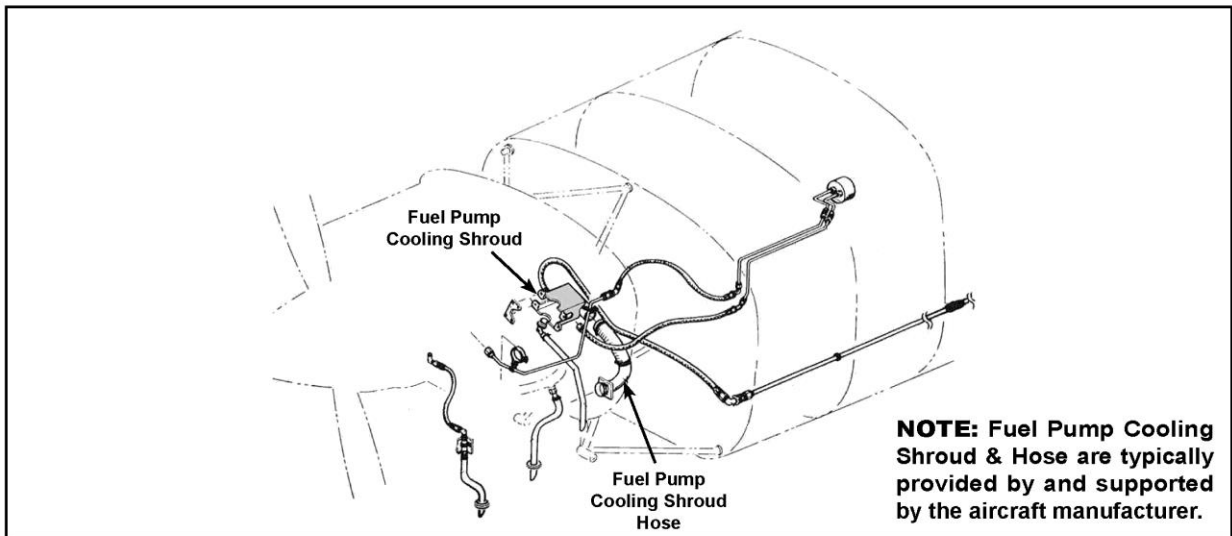
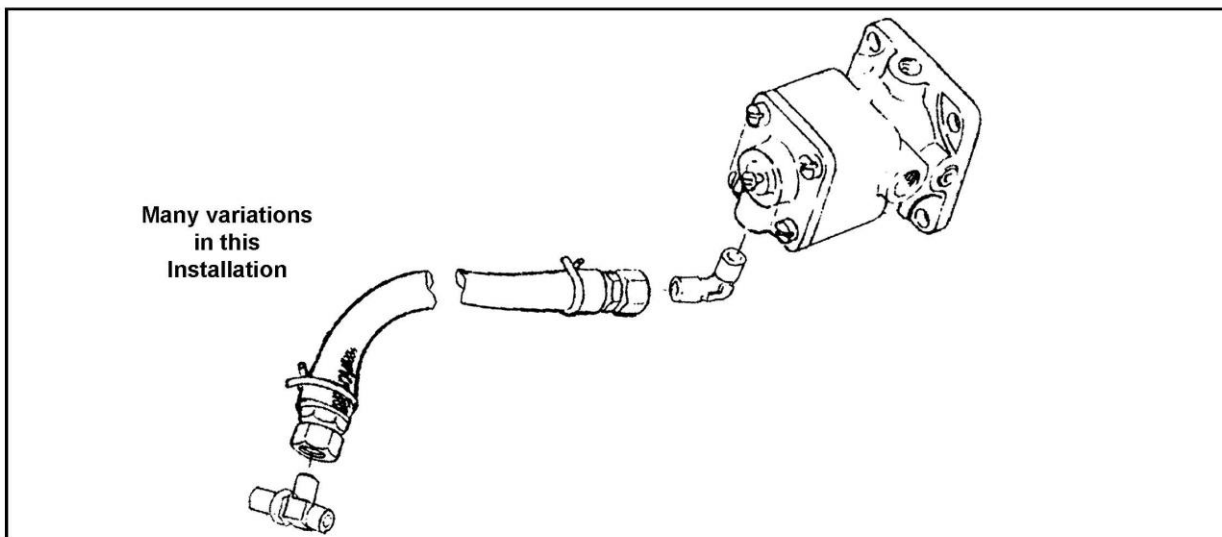

Figure 4 - Typical Cooling Shroud Installation
Figure 5 - Typical HET 201F Fuel Pump Plumbed to Upper Deck Reference
- (b) Inspection of the upper deck reference line requires that the line be disconnected and the inside of the fitting be inspected for fuel or blue dye stains. Refer to Fig. 5 and 6.
- (2) Inspection for fuel or blue dye stains may require use of a "Q" tip cotton swab or similar device to check for the presence of fuel or blue dye.
- (3) If fuel or blue dye stains ARE NOT found:
- (c) If removed, reinstall the fuel pump cooling shroud and air hose (if applicable) in accordance with the latest engine/airframe service instructions or maintenance manual and continue to 3.D.(1), Return to Service. Refer to Fig. 4.
- (4) If fuel or blue dye stains ARE found, continue to 3.C., Corrective Action.